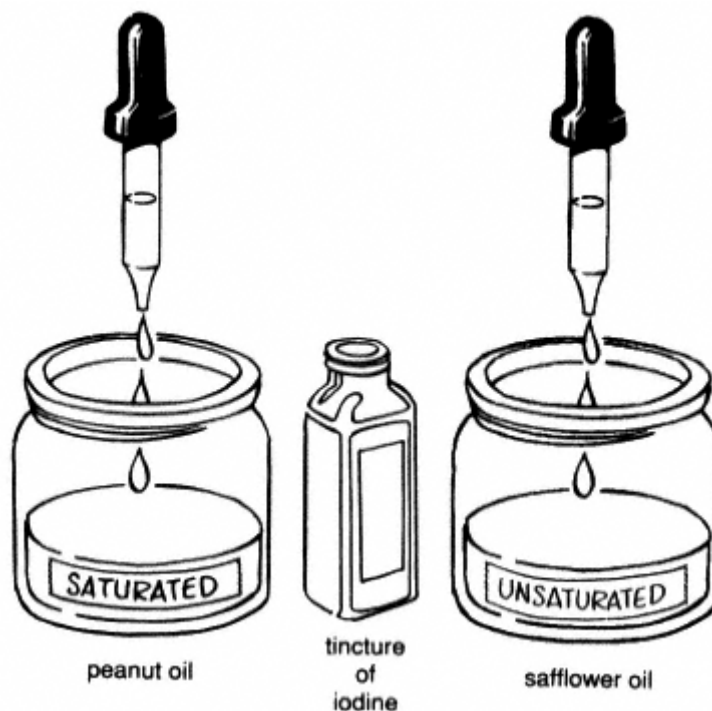

Figure 6.1
1. How are less saturated oils affected by iodine? Repeat the experiment replacing the safflower oil with peanut oil and comparing the results with those of the original experiment (see Figure 6.1). **Science Fair Hint:** Display colored diagrams to represent the results of the addition of iodine to saturated and unsaturated oils.